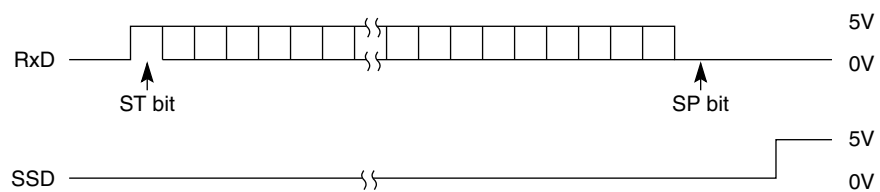

Figure B-7
- Yes Is the RxD of Q3 as specified in Figure B-7?
- ② In receiving by serial interface, printing data is omitted or printing operation is not performed.
• Are RxD and SSD of Q3 as specified in Figure B-7?